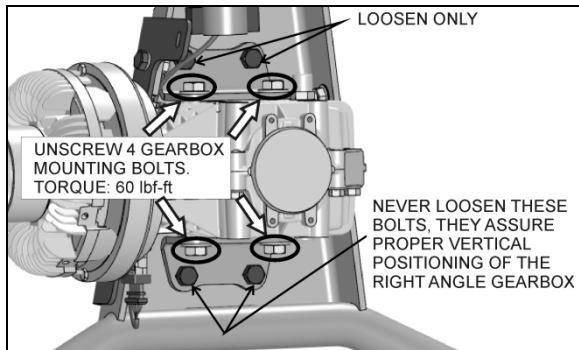

FIGURE 37: RIGHT ANGLE GEARBOX
6. Loosen the gearbox support bracket top bolts (Figure 37).